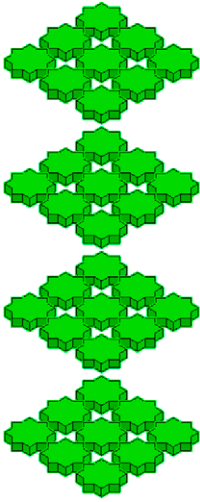

Fig. 14.12 First example – a 3D Rectangular Array
First example – a Rectangular Array (Fig. 14.12)
4. Shade using the **View/Visual Styles/Shaded with Edges** visual style (Fig. 14.12).